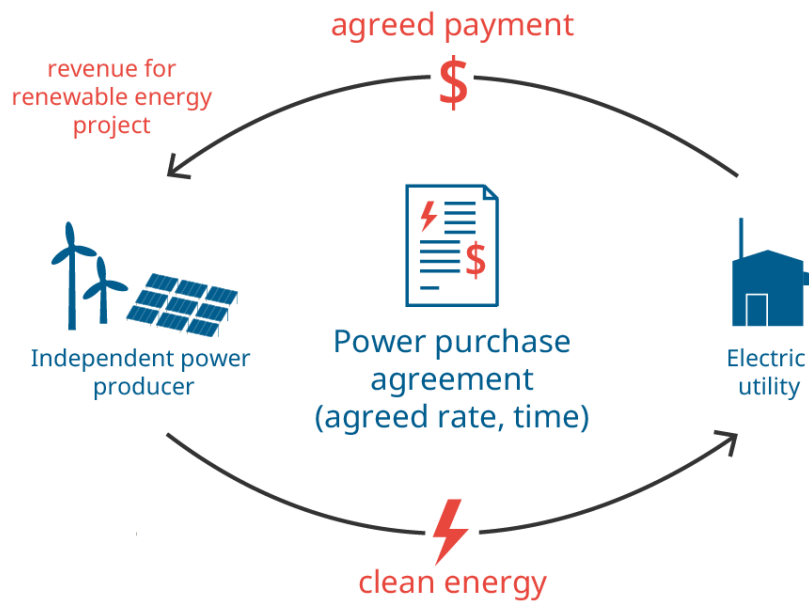

Figure 1. Power purchase agreement configuration
- Figure 1. Power purchase agreement configuration 2
PPAs, also known as energy or electricity purchase agreements, are long-term contracts between an IPP (seller) and, in remote communities, a regulated electric utility (buyer), as shown in Figure 1. They can help develop a solid economic case for renewable energy projects, attracting investment capital and decreasing risk.¹